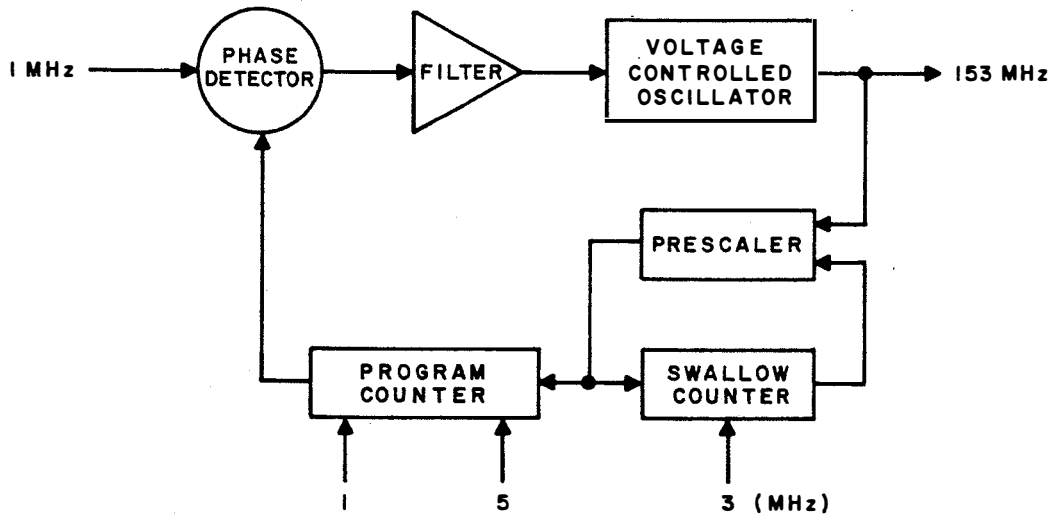

Figure 3-11. Prescaler Dividing Technique
**3-85.** An example of the two-module prescaling technique is given in figure 3-11. For illustration, a VCO output of 153 MHz is desired. Selected into the programmable counter are the two most significant digits, 1 and 5. Selected into the swallow counter is the least significant digit, 3. Under lock conditions, the divider has an input of 153 MHz and an output of 1 MHz.